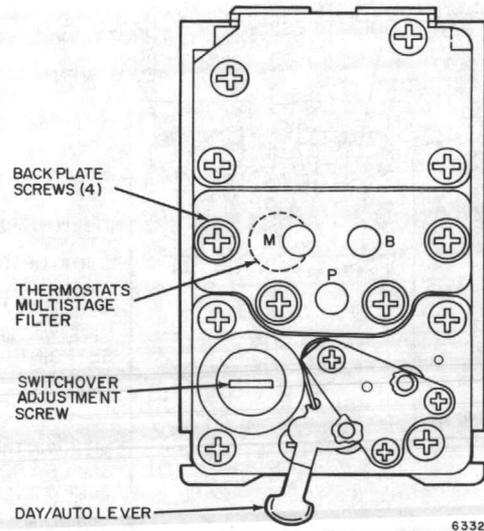

Fig. 17. Back View of Thermostat Showing Switchover Mechanism.
3. BLP gage should read 0 psi for RA stat or 13 psi for DA stat. If it does not, turn switchover adjustment screw (Fig. 17) clockwise until it does.
3. BLP gage should read 0 psi. If it does not, turn switch-over adjustment screw (Fig. 17) clockwise until it does.